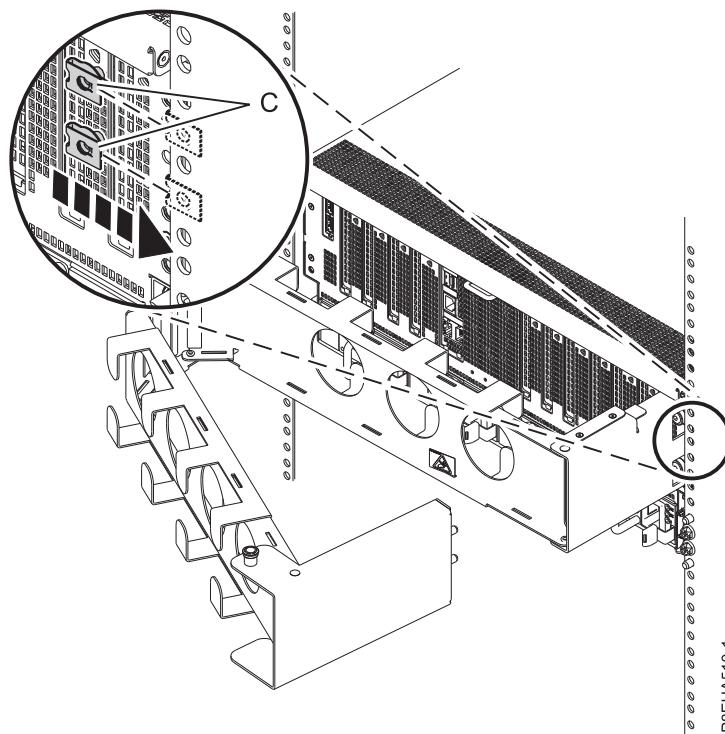

Figure 18. Attaching the nut clips to the rack rail
- Slide the system drawer forward so that you can access the frame. Attach two nut clips (C) to the rack rail in the location where you are attaching the outer plate to the rail, as shown in Figure 18.